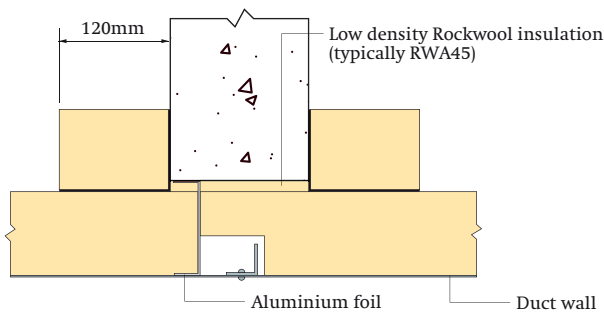

Figure 8 Steel angle frame support to duct at penetration mid point
- a a  $30 \times 30 \times 2\text{mm}$  mild steel angle frame fixed to the duct at the penetration mid point. Steel rivets should be used at 300mm maximum centres (Figure 8),